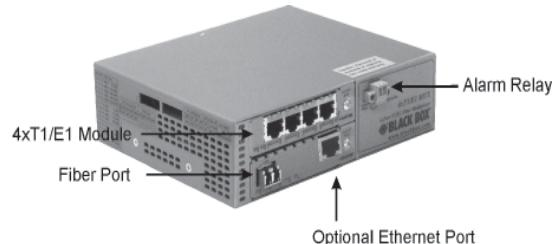

Figure 1: 4xT1/E1 Multiplexer with Optional Ethernet Port
- d. When using a Transport module with the optional Ethernet port (see Figure 1 on page 3), connect the Ethernet 10/100 UTP port via a Category 5 or better cable to an external 10BASE-T or 100BASE-TX Ethernet device.
- e. Connect an appropriate multimode or single-mode fiber cable to the fiber port of the Transport module. It is important to ensure that the transmit (TX) is attached to the receive side of the device at the other end and the receive (RX) is attached to the transmit side. When using single-fiber (SF) models, the TX wavelength must match the RX wavelength at the other end and the RX wavelength must match the TX wavelength at the other end.